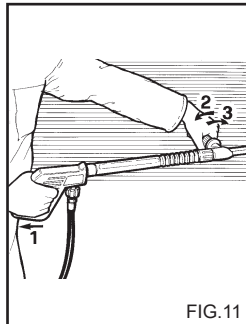

FIG.11
**BRUKE DET DOBLE MUNNSTYKKET ELLER DET JUSTERBARE HODET (fig. 11) (Ekstraustyr)**